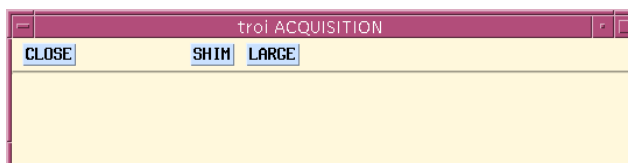

Figure 58. Acquisition Window (`acqi` Program)
1. If the Acquisition window is not open, enter `acqi` to open the window, shown in Figure 58.